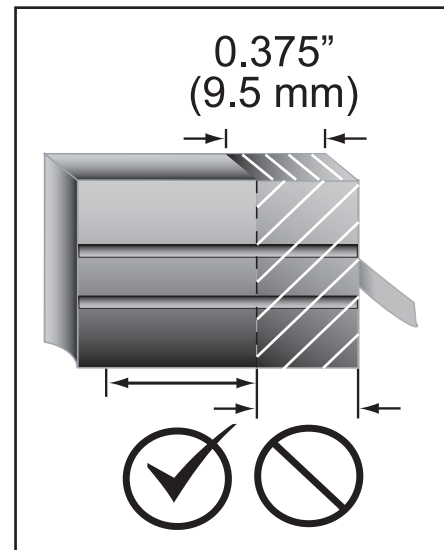

Figure 13
- B. Inspect the brushes for signs of excessive wear or cracks. The motor brushes must be replaced if one or both is worn to .375" (9.5 mm) or less in length, is broken or chipped, has a broken spring, or binds in the motor. See Figure 13.